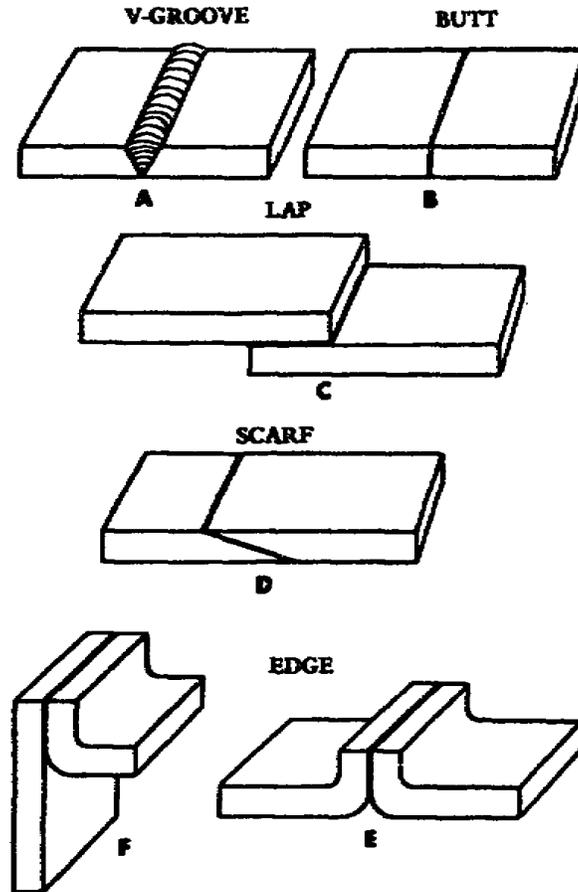

Figure 18. Joint designs.
a. The strength of a brazed joint depends directly upon the bond area (fig 18). This area may be increased for additional strength by beveling the edges of the joint or by depositing a wide face weld.
e. When silver brazing by the oxyacetylene process, a slightly reducing flame is desirable. The outer envelope of the flame, not the inner cone, should be applied to the work. The cone of the flame is too hot for this purpose. Joint clearances should be between 0.002 and 0.005 inch for best filler metal distribution. A thin film of filler metal in a joint is stronger and more effective; a fillet build up around the joint will increase its strength. Some joints which can be used are shown in figures 18 and 19.